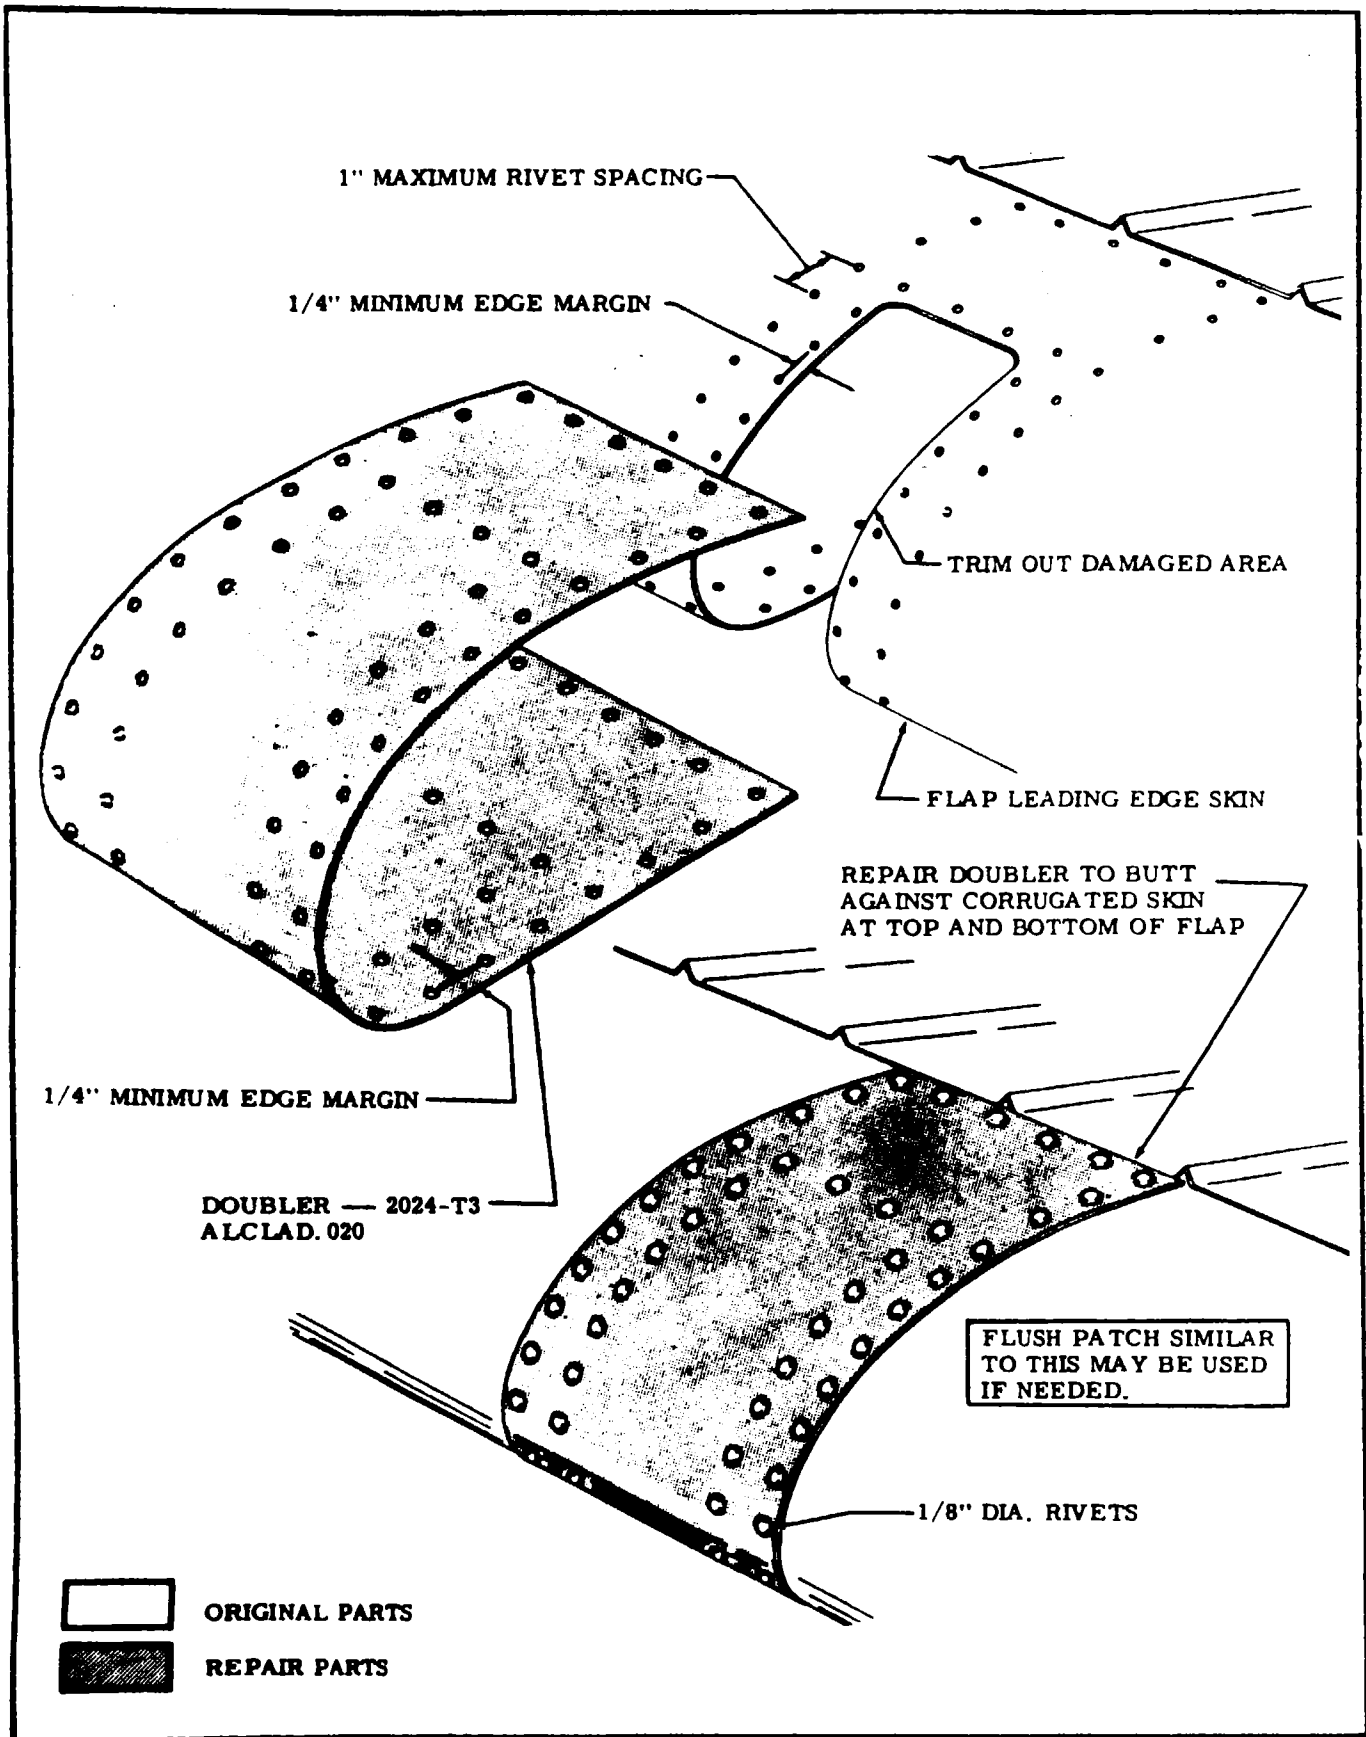

Figure 18-9. Flap Leading Edge Repair
5. On cantilever wing, vertical size is limited by ability to install doubler clear of front fuel spar or stringers outboard of spar. On flaps and ailerons, vertical size is limited by ability to install doubler clear of front spar. (Also refer to figure 18-9.)